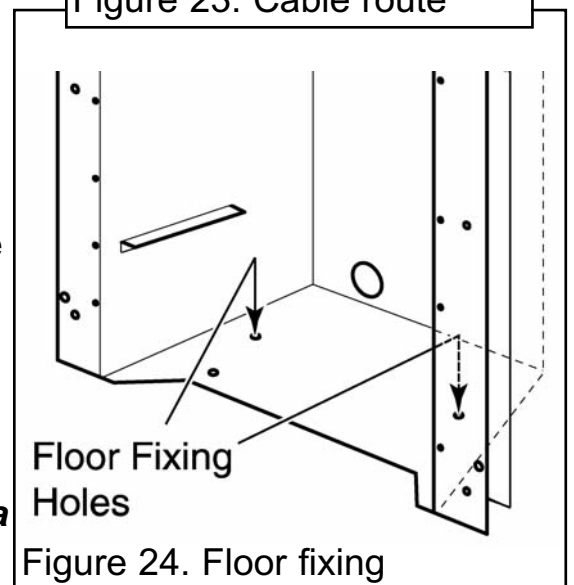

Figure 24. Floor fixing
8. **Ensure that the hotbox is correctly positioned in the fireplace opening (central).** Drill a hole into the fireplace floor through each of the two holes in the base of the hotbox using a suitably sized masonry drill bit for the fibre / wooden plugs supplied (See figure 24).